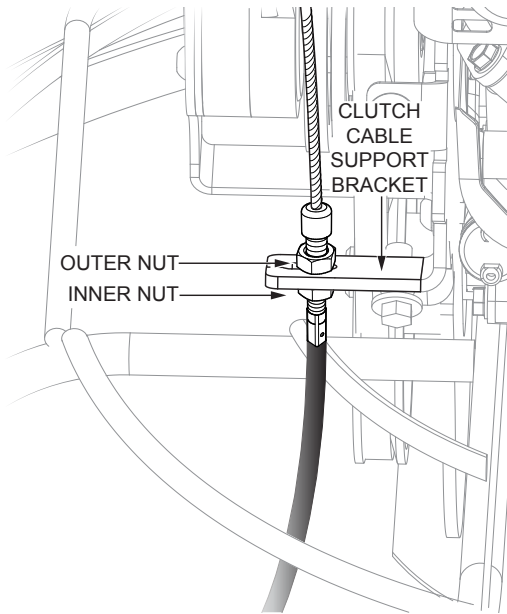

Figure 19. Secure Clutch Cable To Support Bracket
10. Tighten the inner nut against the clutch cable support bracket until there is no slack in the cable between the threaded cable end and the clutch cable spring (Figure 19).
11. Using two 1/2" wrenches, tighten the inner nut and the outer nut securely against the clutch cable support bracket (Figure 19).